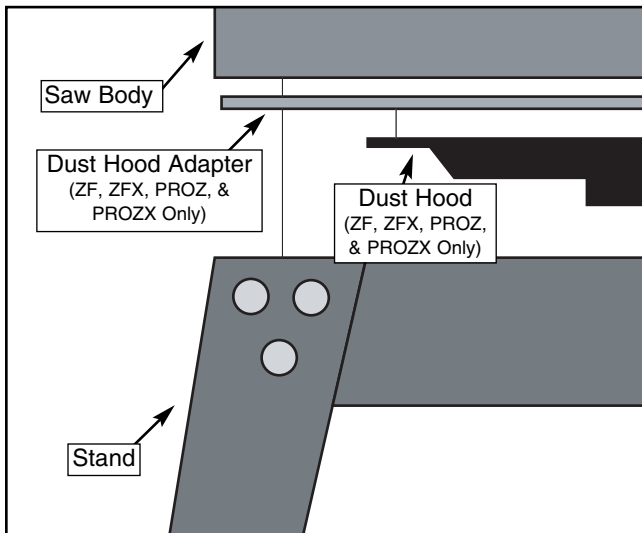

Figure 13. Attaching the stand to the saw base.
- Secure the stand to the body using M8-1.25 x 19 hex bolts, 8MM flat washers and M8-1.25 hex nuts, with the dust port sandwiched between on the Models ZF, ZFX, PROZ, & PROZX, as shown in **Figure 13**.